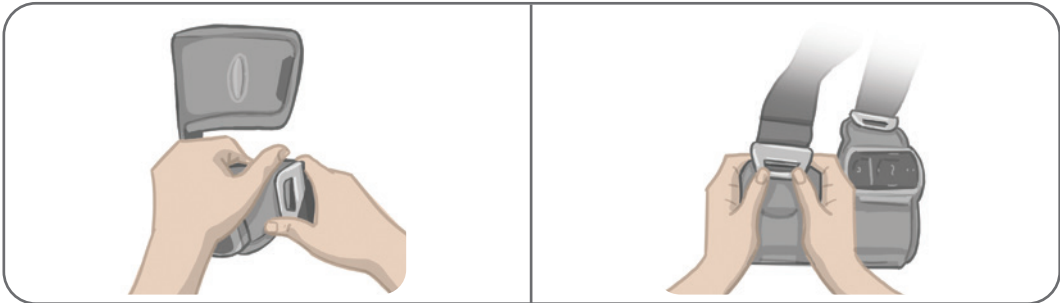

Figure 8-6: Reattaching the Thigh Straps
2. Push the strap buckle with your thumbs toward the strap (direction away from the Thigh Cuff). See Figure 8-6.